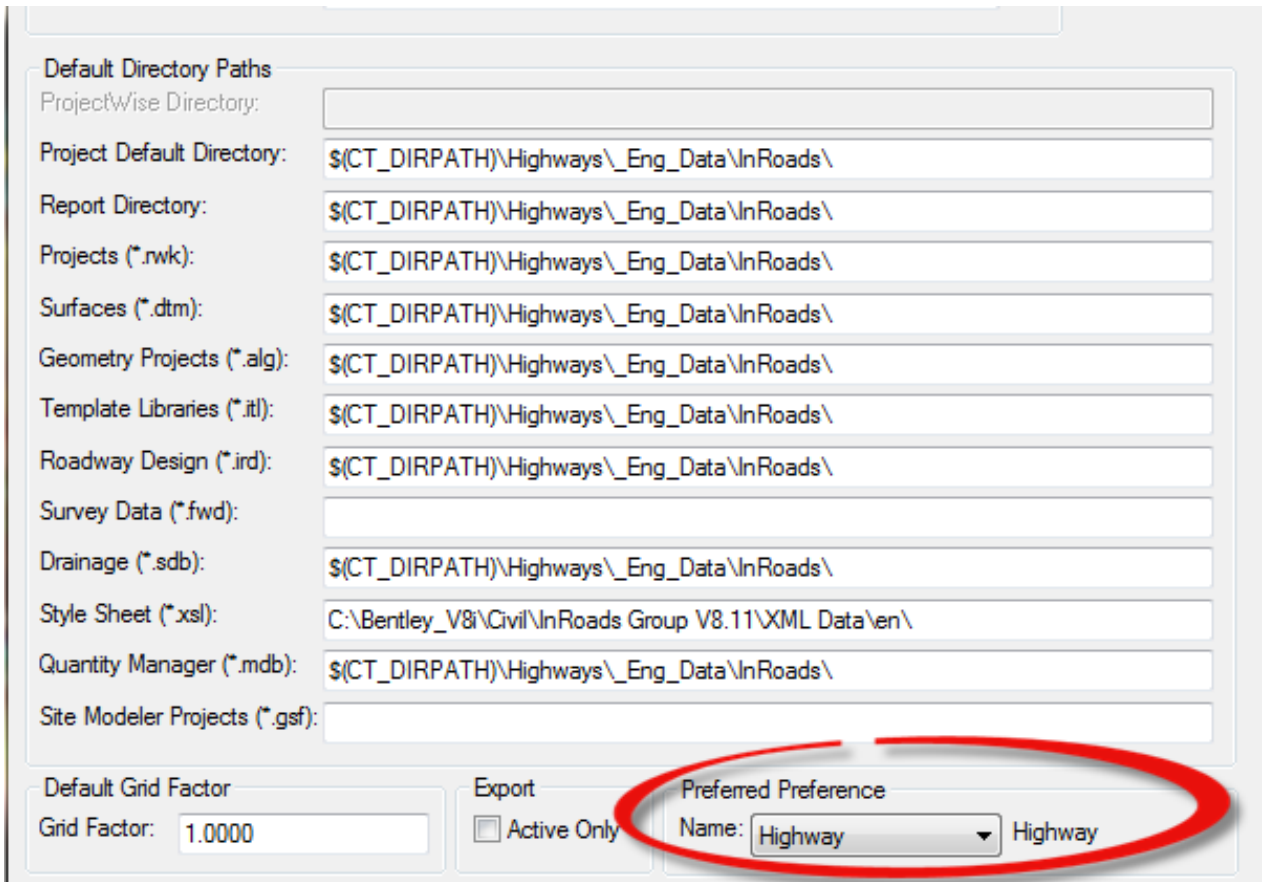

Figure 1-10 InRoads Project Defaults Box
A. From the InRoads Menu Bar select **File < Project Defaults**. See Figure 1-10.